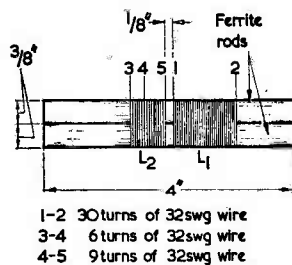

Fig. 2. Winding details for  $L_1$  and  $L_2$
- $L_1, L_2$  See text and Fig. 2
oscillate in the Medium waveband, the coil is wound on ferrite rod, but there is no intention that the circuit should be used without an external aerial and earth. Two 4in lengths of  $\frac{1}{8}$ in rod are required, and can be made by snapping a standard 8in rod in two. The two rods are bound together with Sellotape, as shown in Fig. 2.  $L_2$  is wound on first, consisting of 15 turns of wire, close wound, with a tapping at the end of the sixth turn.  $L_1$  follows in the same direction after a gap of  $\frac{1}{2}$ in, and consists of 30 turns, close wound. 32 s.w.g. wire is used for both windings, which should be roughly at the mid-point of the rods. The windings are covered with Sellotape.
Tests were also conducted on the effect of varying battery voltage, and the results are shown graphically in Fig. 2, in the form of percentage timing variations from the time obtained with a 9 volt